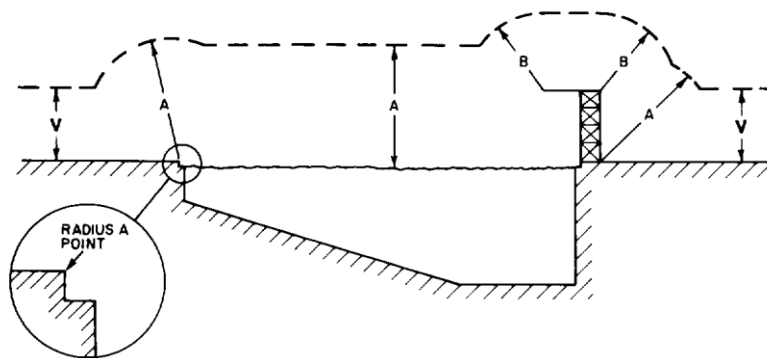

Figure 3
- Where wires, conductors, cables, or unguarded rigid live parts are over a swimming pool or the surrounding area, clearances in any direction shall be as shown in the Figure 3 and Table 4 on Page 7-10. This rule does not apply to a pool enclosed by a solid or screened permanent structure.